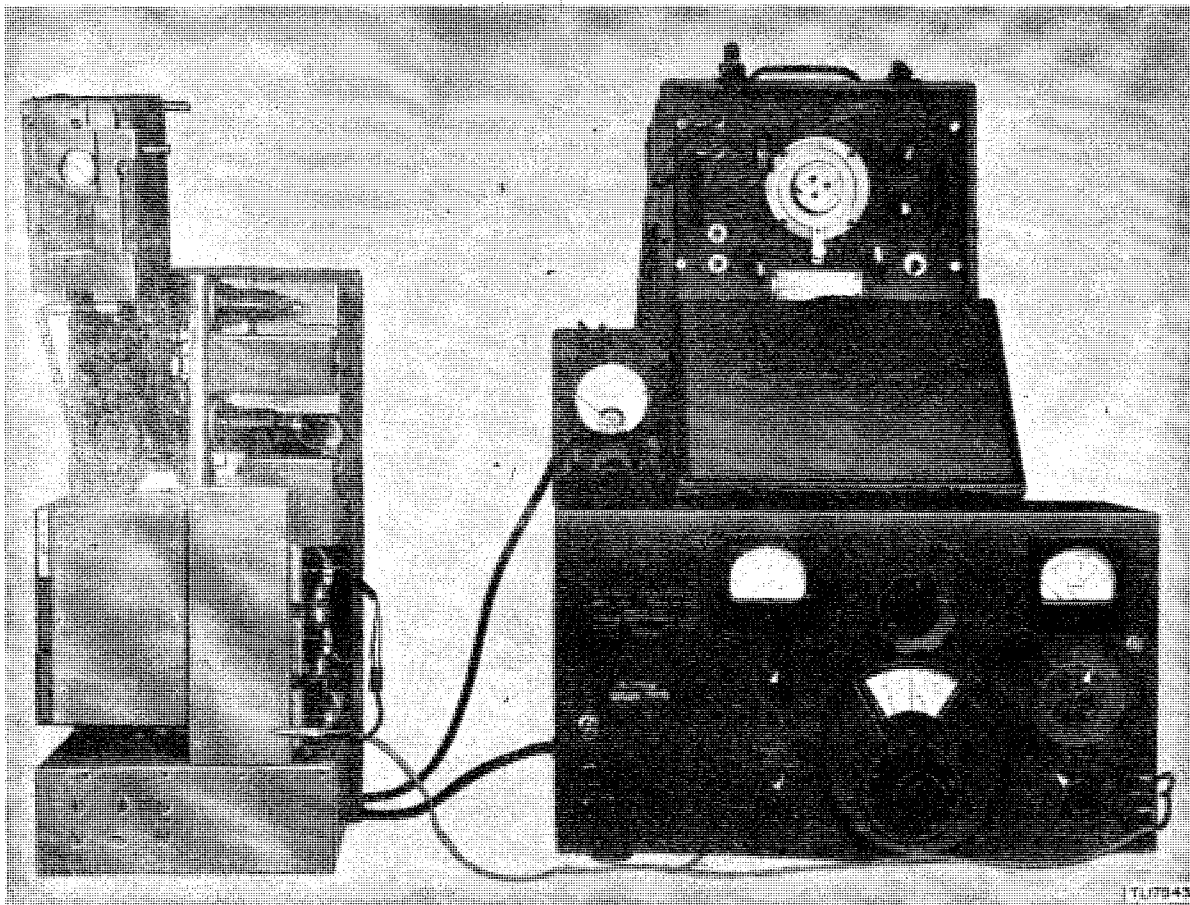
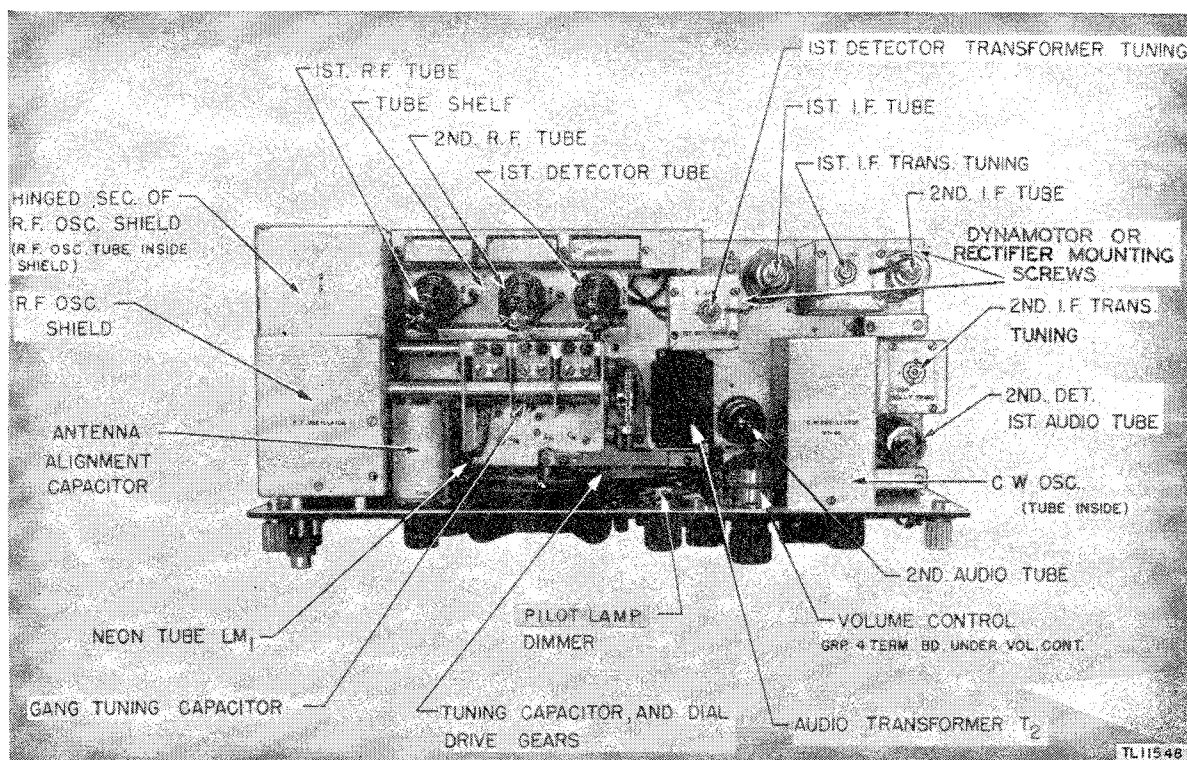
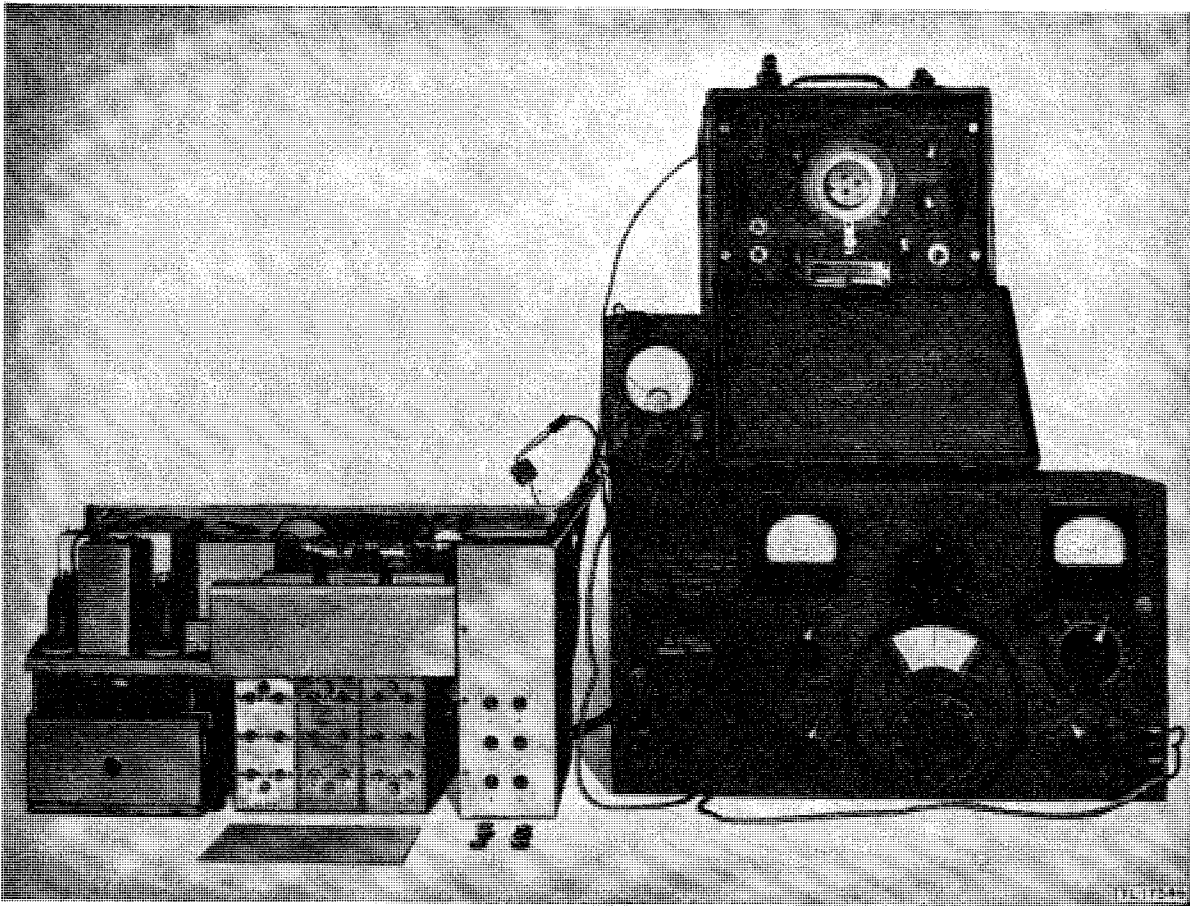

Figure 12. Radio Receiver BC-312-(*), or BC-342-(*), typical set-up for i-f alignment.
Figure 13. Receiver chassis, top view.
Figure 15. R-f oscillator alignment, typical set-up.
To remove the dynamotor or rectifier assembly from the chassis, unscrew the two screws on top of the chassis (fig. 13.). Turn the chassis
a. GENERAL. The rectifier can be tested and repaired without removing it from the receiver. Remove the two screws from the top of the chassis (fig. 13). Turn the receiver chassis upside down and remove the screw pin from the inner mounting hinge. Swing the rectifier assembly away from the panel. Discon-
a. PREPARATION. Set up the receiver and alignment equipment (fig. 12). Calibrate the signal generator for a 470-kc signal (par. 16). Remove from the top of the chassis the two screws which hold the power supply stationary (fig. 13). Remove the screw from the dynamotor or rectifier inner mounting hinge and swing the power supply upward, securing it in position with a rack or block of wood. Set the OFF-M. V. C.-A. V. C. switch to M. V. C., the CRYSTAL PHASING control to OUT, the C. W.-OSC. switch to OFF, and the VOL. control to maximum. Loosen the i-f transformer screw locknuts.
(1) Attach the signal generator ground lead to the receiver chassis and connect the dummy antenna (300-ohm resistor) between the grid cap of the second i-f amplifier tube and the output lead from the signal generator.
(2) Connect the output meter to the PHONES 2d AUDIO jack, and adjust the signal generator attenuator to give a small deflection on the output meter, using the smallest scale possible.
(3) Adjust the second i-f transformer adjustment screws (figs. 13 and 14) located on the top and bottom of the transformer for maximum output indication.
(4) Reduce the signal generator output whenever necessary during alignment to avoid overloading the receiver.
(5) Move the dummy antenna to the grid cap of the first i-f amplifier tube; adjust the first i-f transformer adjustment screws for maximum output indication.
(6) Connect the dummy antenna to the grid cap of the first detector tube; adjust the first detector transformer adjustment screws for maximum output indication.
(7) Leaving the dummy antenna connected to the first detector tube, readjust the second i-f, first i-f, and first detector transformer adjustment screws, in the order named, for maximum output.
(8) Carefully tighten the adjustment screw locknuts, avoiding any change in the settings of the screws. A change in the deflection of the output meter while a locknut is being tightened indicates that the adjustment screw has been moved and must be readjusted.
b. PREPARATION. Set up the receiver and alignment equipment as shown in figure 15. Calibrate the signal generator for a 2,900-kc
a. PREPARATION. Set up the equipment (fig. 12). Calibrate the signal generator to 470 kc (par. 16). Set the OFF-M. V. C.-A. V. C. switch to M. V. C. or A. V. C. and the C. W.-OSC. switch to ON. Turn the CW-OSC ADJUST control so that the arrow is horizontal, pointing to the right. Remove the cap screw above the C. W.-OSC. switch, permitting access to the c-w oscillator adjustment screw. Connect a headset or speaker to the receiver.
a. PREPARATION. Set up the equipment (fig. 12). Calibrate the signal generator to 470 kc (par. 16). Set the OFF-M. V. C.-A. V. C. switch to M. V. C. and the C. W.-OSC. switch to ON. Connect a headset or speaker and the output meter to the receiver.
(1) Connect the dummy antenna (300-ohm resistor) between the grid cap of the first detector tube and the output lead of the signal generator. Connect the ground lead of the signal generator to the chassis.
(2) Feed an unmodulated 470-kc signal into the receiver; rotate the CW-OSC ADJUST control until a sharp, shrill note is heard.
(3) Turn the CRYSTAL PHASING control counterclockwise (away from OUT) until a minimum or null signal response is heard. If the signal is too weak to be heard, advance the signal generator gain control until the signal is audible.
(4) Determine the operation frequency of the crystal by careful varying of the signal generator frequency slightly above and below 470 kc until a sharp increase in deflection is noted on the output meter and the volume increases noticeably in the headset or speaker. (During this procedure, it may be necessary to change the setting of the CW-OSC ADJUST control to maintain the shrill note.)
(5) Leave the signal generator set at the operation frequency of the crystal, turn the c-w oscillator off, and turn the signal generator modulation on. Repeat the i-f and first detector transformers for maximum output (par. 17). Also, realign the c-w oscillator at this new frequency (par. 20).
(6) To obtain maximum sensitivity from the receiver, it may be necessary to touch up the r-f oscillator-alignment adjustment screws, after the alignment of the crystal filter and realignment of the i-f stages.